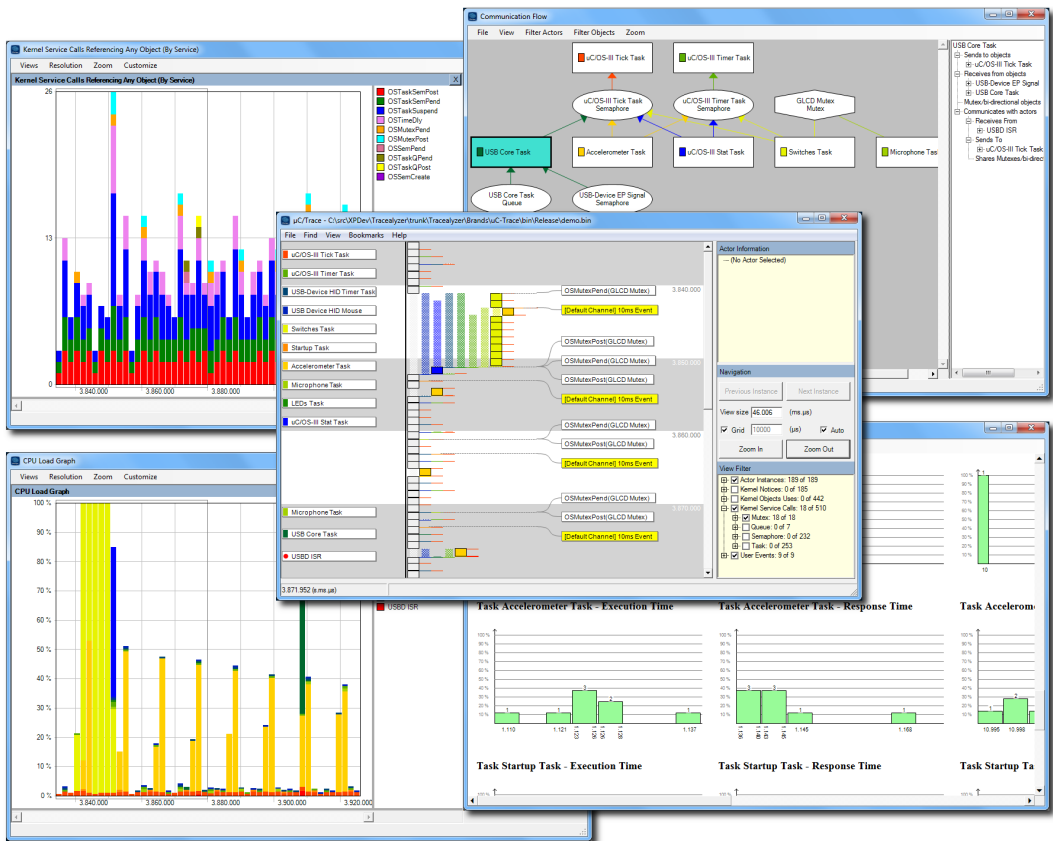

Figure D-1  $\mu$ C/Trace Analyzer Windows
μC/Trace provides more than 20 interconnected views of the runtime behavior, including task scheduling and timing, interrupts, interaction between tasks, as well as user events generated from your application as shown in Figure D-1. μC/Trace can be used side-by-side with a traditional debugger and complements the debugger view with a higher level perspective, ideal for understanding the complex errors where a debugger's perspective is too narrow.
- The PC application ( $\mu$ C/Trace), used to analyze the recordings as shown in Figure D-1.